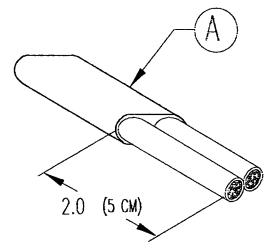

FIGURE 2
2) Assemble Cable Boot (Fig. 2, 3, 4).
- Strip the outer cable jacket (Part A - not included) 2.0 in. (5 cm) (Fig. 2).